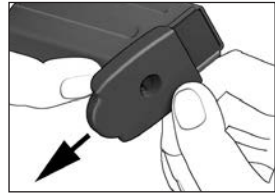

Figure 26
3. Slowly slide the floorplate forward off the magazine housing (see Figure 26).